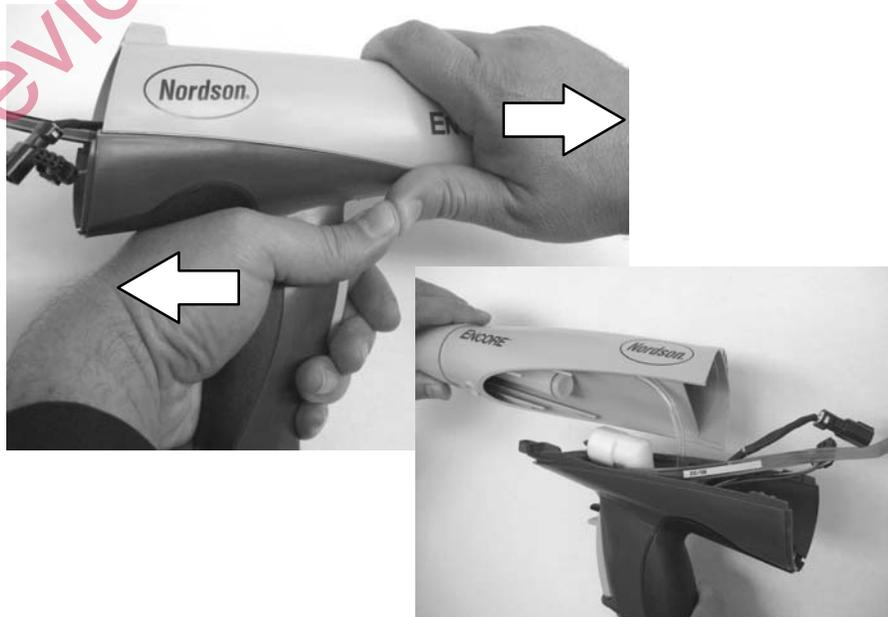

Figure 5-6 Separating Handle and Gun Body
6. See Figure 5-6. Grasp the handle in one hand and the gun body in the other. Press the thumbs of each hand together while pulling in opposite directions to separate the gun body from the handle.